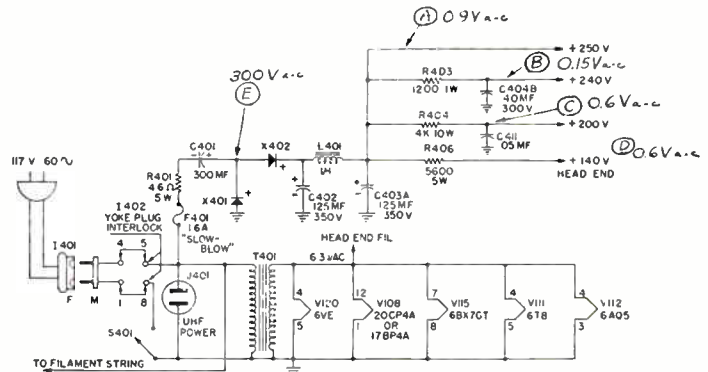

Fig. 2. Circuit diagram of power supply section used in the new General Electric Stratopower receivers.
**Tele-Clue No. F130.** If the scope probe is placed on point A in Fig. 2 and the horizontal gain control slightly advanced, an o-c waveform will ap-
pear on the scope as shown on page 3. As previously mentioned the peak-to-peak amplitude of this waveform can be determined and noted on the schematic as shown at point A in Fig. 2. Since the only control which has been changed from Tele-Clue F129 is the horizontal gain control, the waveform will have the same peak-to-peak voltage of 0.15 volt per small square. Inasmuch as this waveform has an amplitude of about six small squares, the peak-to-peak voltage of this waveform would be 0.90 volts. The probe was then moved to points B, C, D and E and the peak-to-peak voltages noted as shown on Fig. 2. These voltages can be used for comparison when servicing any other receiver using this same circuit. In this way, the efficiency of the filter capacitors can be checked and an a-reference level on the B+ line established.
The voltages indicated in Fig. 2 may vary slightly. However, any considerable increase would indicate a loss of filter capacitance.